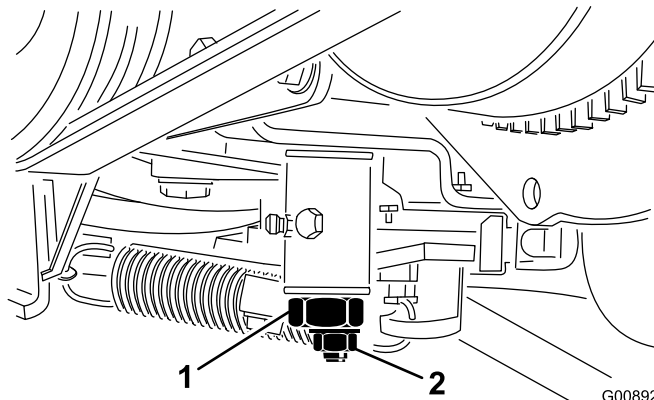

Figure 57
4. Loosen the locknut on the traction adjustment cam (Figure 57).